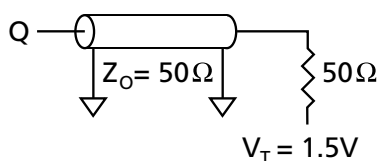
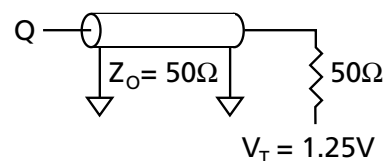

Figure 1
Figure 3
9. Test conditions as specified with output loading shown in Figure 1 for 3.3V I/O ($V_{DDQ} = +3.3\text{V} \pm 0.165\text{V}$) and Figure 3 for 2.5V I/O ($V_{DDQ} = +2.5\text{V} + 0.4\text{V} / -0.125\text{V}$).
Output load	See Figures 1 and 2
Output load	See Figures 3 and 4